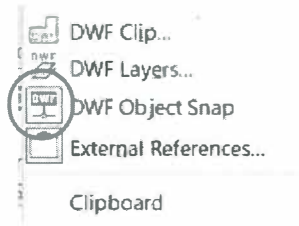

Figure 11-44
1. Switch to the *Model* tab. In the drawing window, select **Factory Site-M.dwf** (the outer rectangle). Right-click and verify that **DWF Object Snap** is enabled (blue frame), as shown in Figure 11-44. (You can also use **Enable Snap**, found in the *DWF Underlay* contextual tab.) Press <Esc> to exit the selection.